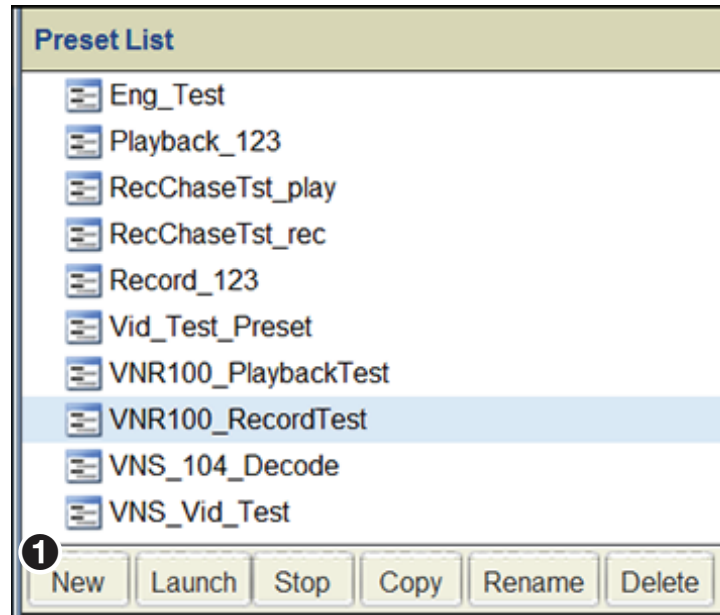

Figure 106. Presets, Using the VNS 104
1. Select **New** at the base of the **Preset List** panel to create a blank preset (see figure 106, ❶).